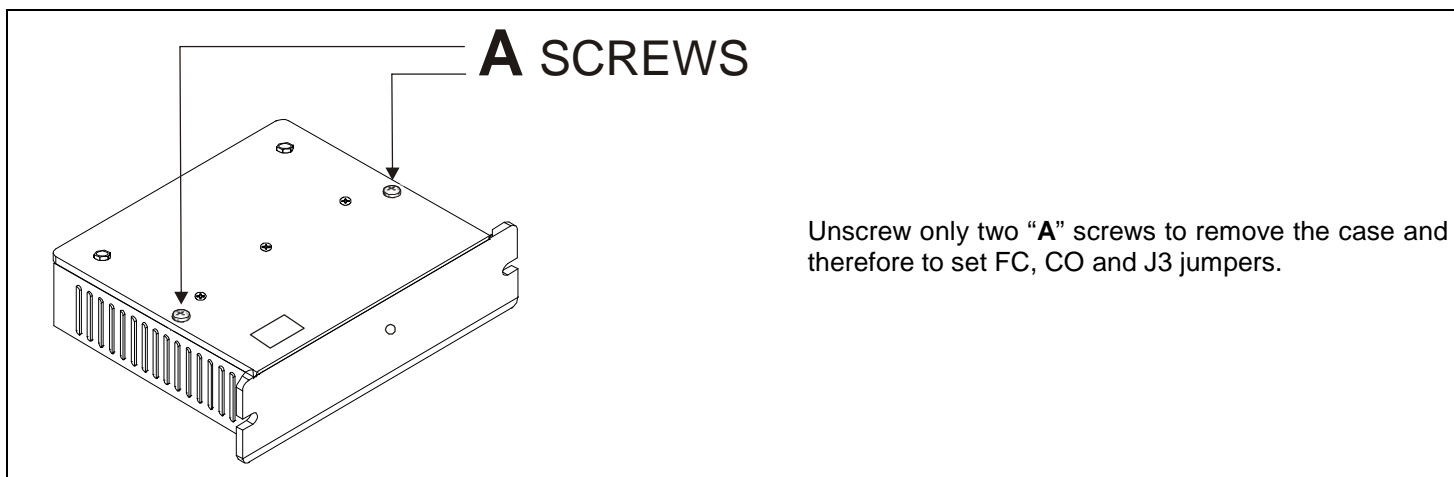

Fig. 6
**NOTE:** For A-NDC 94 and A-NDC 96 models, remove the case to set FC and CO jumpers (see Fig. 6).